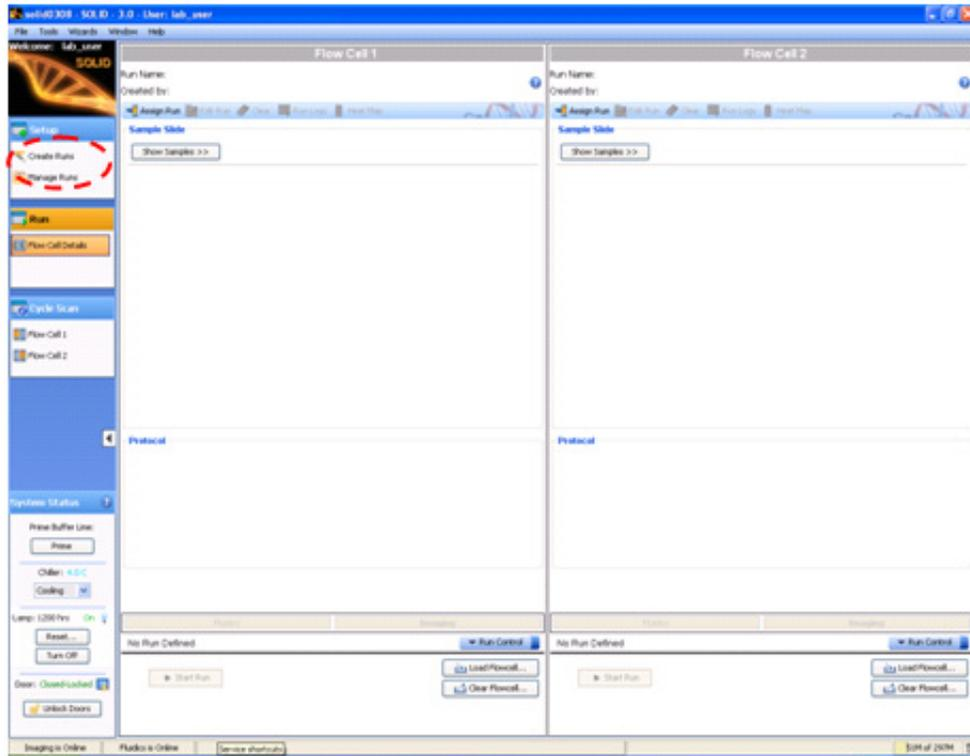

Figure 33 Use the run wizard to create a WFA run.
1. Click **Create Runs** in the Setup task pane on the left menu pane of the ICS (see Figure 33 on page 46).